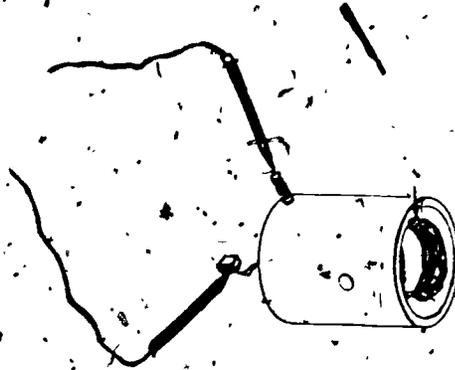

FIGURE 5
9. Check field coil for open circuit (Figure 5)